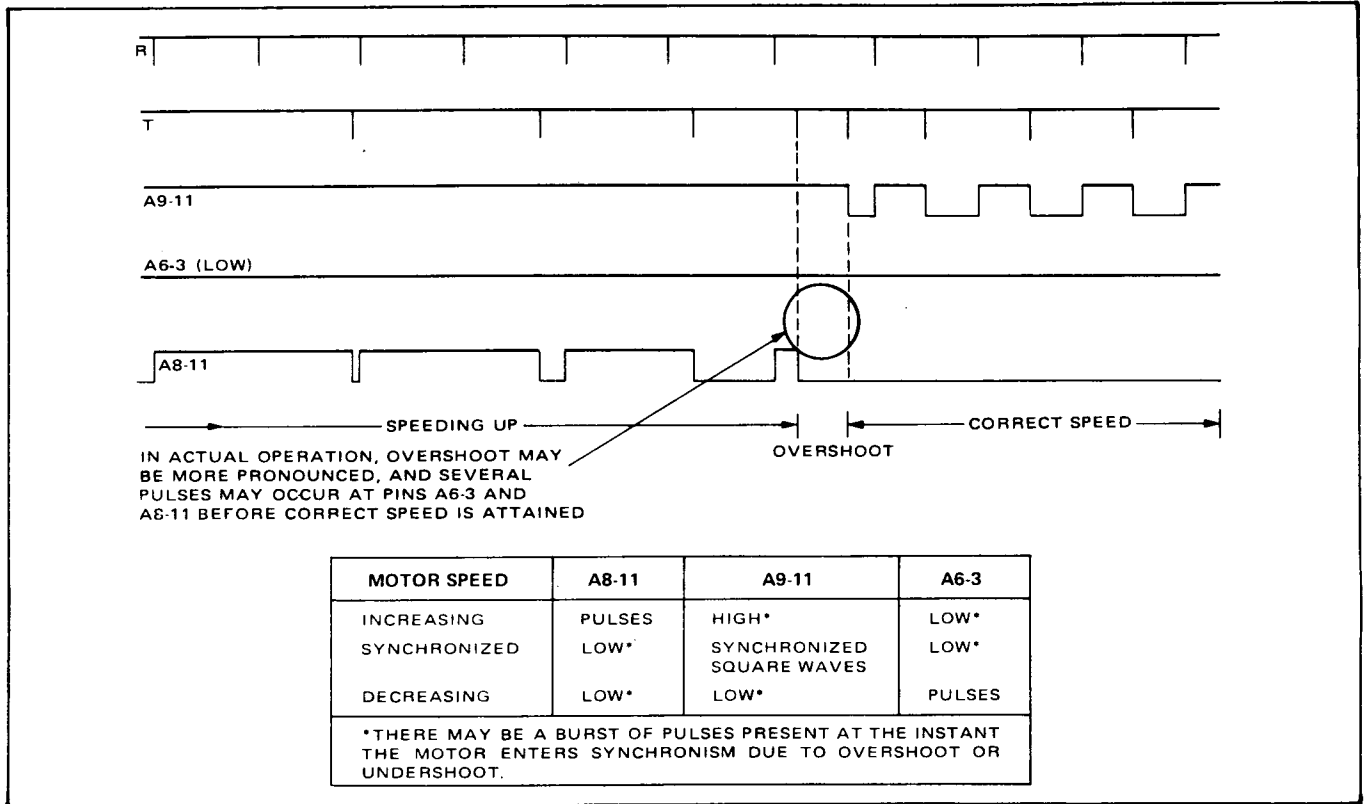

Figure 4-17. Capstan Phase Comparator, Typical Waveform
Figure 4-17 shows a typical set of waveforms for the capstan phase comparator and a table listing the signal conditions at pins A8-11, A9-11, and A6-3 for each motor-speed condition. The waveforms of this figure depict a situation similar to the time when the capstan motor is accelerating to operating speed after starting. Notice that when the tach-signal (T) frequency reaches and then exceeds the reference-signal (R) frequency, two T pulses occur between adjacent R pulses. At this point flip-flop A9-3/11 begins changing state and a square wave that contains phase information appears at pin A9-11.
When the capstan motor reaches the correct speed (synchronized operation), the R and T pulses alternate and a rectangular wave is produced at pin A9-11. Notice that while the motor is increasing speed and when it is synchronized, pin 3 of flip-flop A6-3/11 is low. Further notice that during the same time interval, each T pulse causes the signal at pin A8-11 to go low, but the following R pulse returns the signal to a high level. After the instant that the tach-signal frequency exceeds the reference-signal frequency (termed overshoot, flip-flop A8-3/11 stops changing state; and the signal at pin A8-11 stays low during synchronized operation. In actual operation, although Figure 4-17 does not show it, the overshoot may be enough to cause several pulses at pins A6-3 and A8-11.
When the motor is slowing (for example, from 30 in/s to 15 in/s), pin A9-11 remains low until the capstan is turning below the correct speed (undershoot). During the undershoot interval, two T pulses occur between adjacent R pulses. Subsequently, a rectangular wave at the correct frequency is again produced at pin A9-11. (The motor-slowness sequence is not shown in Figure 4-17.) The signal at pin A6-3 is normally high and is forced low by each R pulse when the motor is slowing. At the instant of undershoot, the signal at pin A6-3 goes low and stays low. Further, the signal at pin A8-11 remains low (as the signal at pin A6-3 does when the motor is coming up to speed). However, a few pulses may appear at pin A8-11 at the instant of undershoot because the undershoot may be enough to require the motor to increase speed slightly before arriving and remaining at the correct speed.